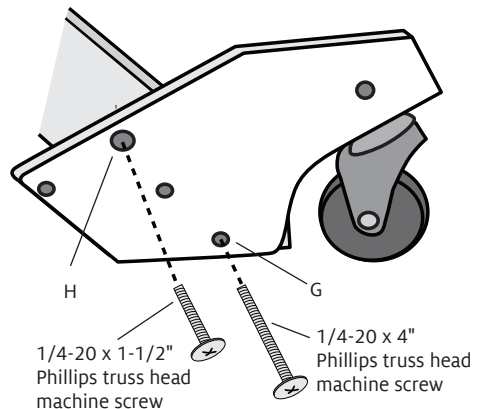

FIGURE 9: REAR CASTER BLOCK AND OUTSIDE LEG
8. Set a caster block on the outer side of an outside leg, with the caster wheel toward the back and the floor (Figure 9). Line up hole [G] at the bottom of the caster block to hole [B] in the outside leg. Insert a 1/4-20 x 4" Phillips truss head machine screw through the bottom hole [G] in a caster block, then through the bottom hole of an inside leg height extender block. Thread the machine screw into a barrel nut in the rear leg brace and tighten, using a slotted screwdriver to hold the barrel nut in
9. Insert a 1/4-20 x 1-1/2" Phillips truss head machine screw into the top hole [H] of a caster block (Figure 9). The screw will thread into an insert in the height extender block that you cannot see; fasten securely. Repeat for the other outside leg height extender block.